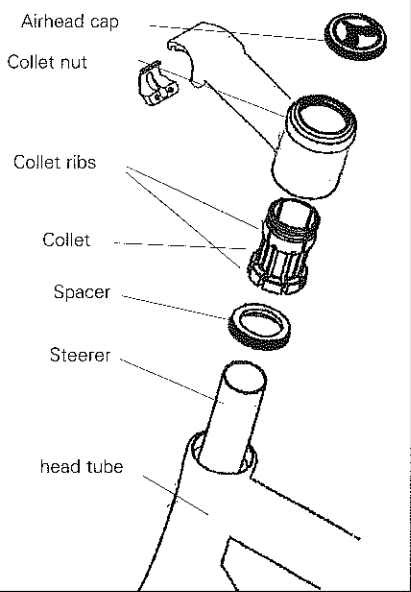

Fig. 28
2. Lightly grease the steerer, and remove any excess grease with a rag. Also lightly grease the collet threads and the collet ribs, where the collet contacts the inside of the stem (Fig. 28).